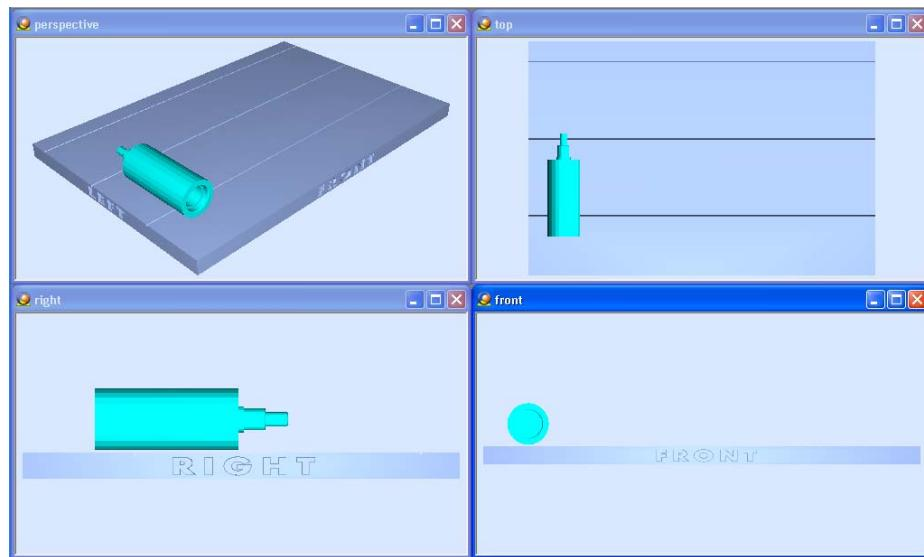

Figure 5-9: 4-view screen layout
- 4 Views** displays *top*, *front* and *right* views (see figure 5-9).